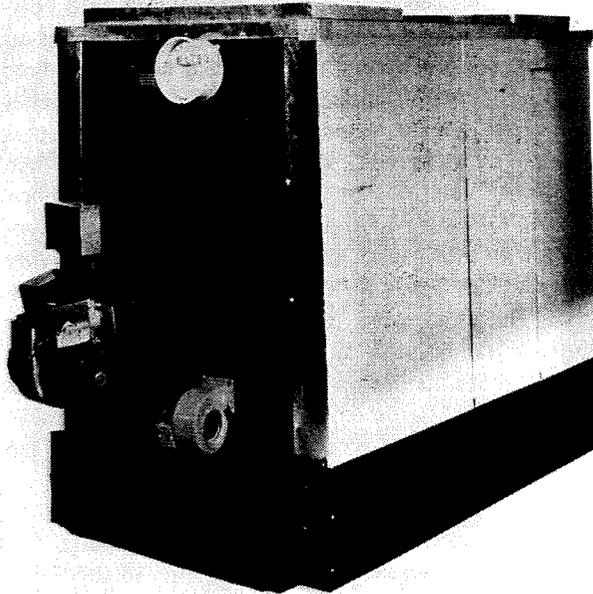

Fig. 86. Riteway furnace.
26. **Riteway Manufacturing Co.** (manufacturer), Division of Sarco Corp., P.O. Box 6, Harrisonburg, VA 22801. Riteway furnaces (LF20-70; Fig. 86 and Table 10) are equipped with thermostatic controls, barometric damper, draft inducer, forced-draft and warm-air circulation blowers, filters, galvanized casing, heat exchanger, and a mounting tube for installation of an oil or gas burner.